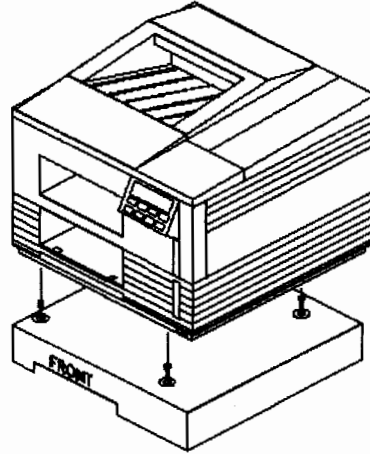

Figure 2-2. Placing the Pedestal under your Printer
4. A third person should position the Printer Pedestal directly beneath the printer's feet. Make sure that the side of the Printer Pedestal marked "Front" is below the paper tray/control panel side of the printer, such that each foot of the printer will sit in the circular foot holes of the Pedestal as shown in figure 2-2.